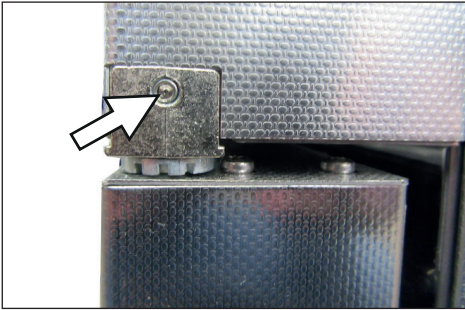

Fig. 17 Set screw
1. Open set screw on the front side of the door hinge with Allen key size 2 (Fig. 17).